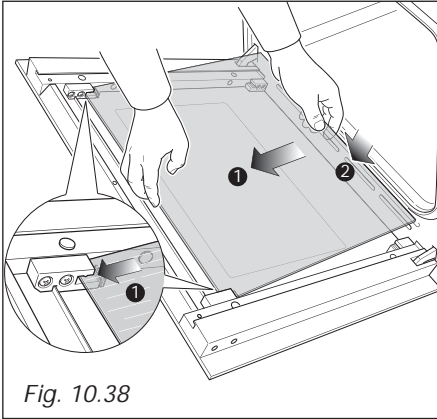
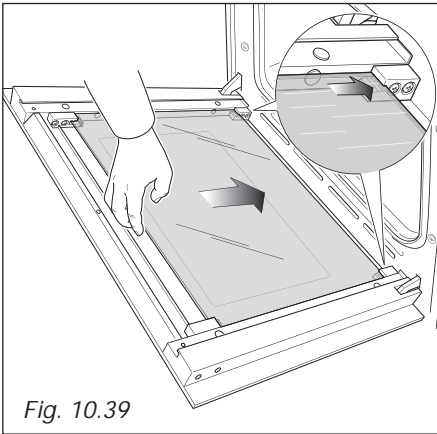

Fig. 10.38
Fig. 10.39
- Gently insert the top edge of the pane into the top clamps (arrow 1 in fig. 10.38), then lower the pane and insert the bottom edge into the bottom clamps (arrow 2 in fig. 10.38); and then slide the pane into position (fig. 10.39).